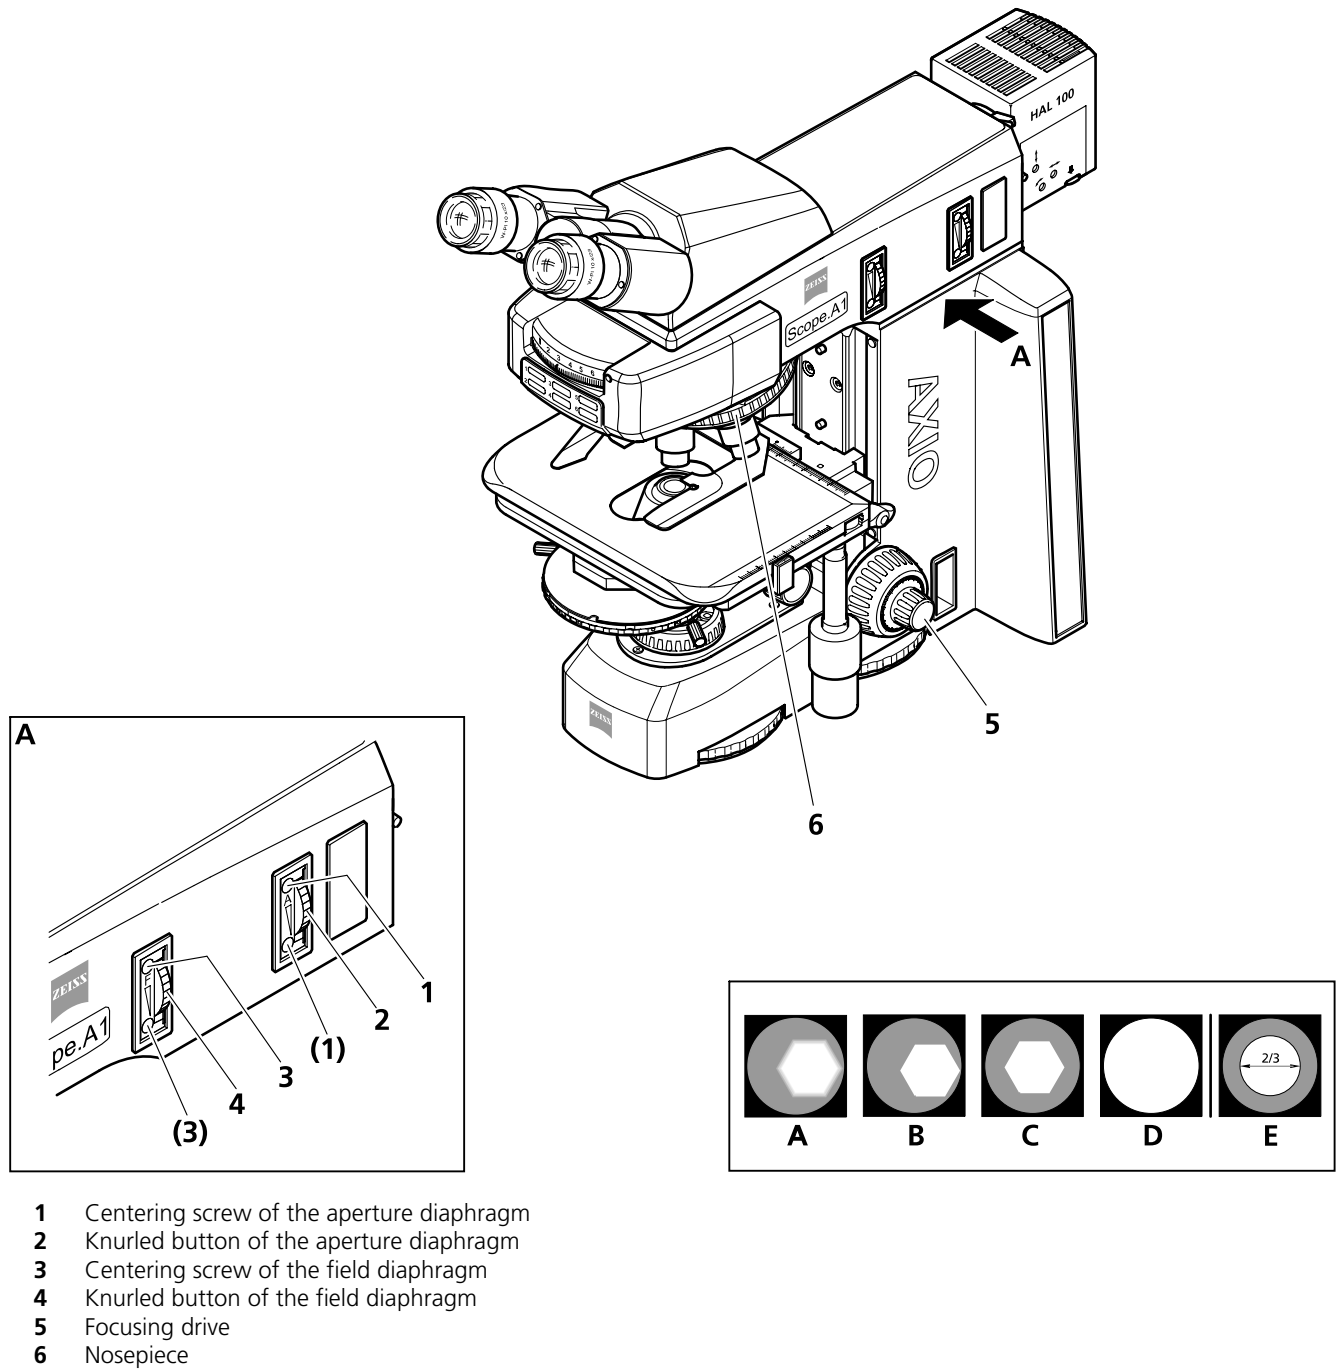

Fig. 4-11 Adjusting the microscope in the reflected light/bright-field
- Swing in objective 10x on the nosepiece (Fig. 4-11/6).
- Focus the sample with the focusing drive (Fig. 4-11/5). Try to focus away from the sample in order to avoid any collision between objective and sample.
- Put the knurled button of the aperture diaphragm (Fig. 4-11/2) to a medium position (approx. half open and half closed).
- Adjust the knurled knob on the field diaphragm (Fig. 4-11/4) so that the field diaphragm becomes visible in the field of view (Fig. 4-11/A).
- Readjust the focus on the edge of the field diaphragm with the focusing drive (Fig. 4-11/B) and center the field diaphragm on the edge of the field of view (Fig. 4-11/C) with the centering screws (Fig. 4-11/3).
- Now open the field diaphragm enough to just make it disappear behind the edge of the field of view (Fig. 4-11/D).
- Center the aperture diaphragm with the centering screws (Fig. 4-11/1) and adjust the knurled knob (Fig. 4-11/2) to about 2/3 to 4/5 of the diameter of the objective exit pupil (Fig. 4-11/E) for samples with a medium contrast quality.